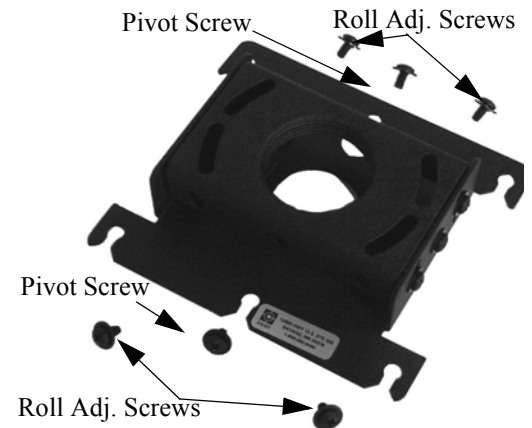
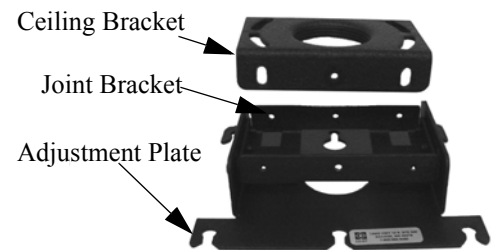

Figure 6. RPA Screws
Figure 7. RPA Disassembly
- a. Remove four #10-24 X 3/8" long pan head roll adjustment screws (see Figure 6).
- c. Remove the Ceiling bracket from the joint bracket (see Figure 7).
3. Secure the ceiling bracket to the joint bracket (see Figure 7) using four #10-24 X 3/8" long pan head roll adjustment screws and two #10-24 X 3/8" long pivot screws (see Figure 6).
4. Using four studs on mount and four thumb screws, secure the RPA to the mount (see Figure 6).